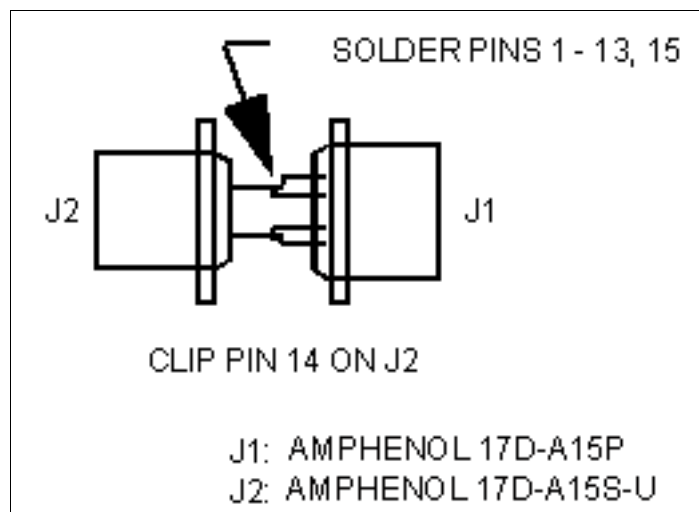

Figure 2-10 - Radio TX Inhibit Adapter Connector
1. Remove power from the SBU by removing the battery and install the Radio TX Inhibit Adapter (as shown in Figure 2-10) between the radio cable connector (15 pin "D" type) and J6 on the SBU Processor PCB. This inhibits all transmissions initiated by the SBU to prevent possible damage to the communication monitor. Re-apply power to the SBU by reinstalling the battery.